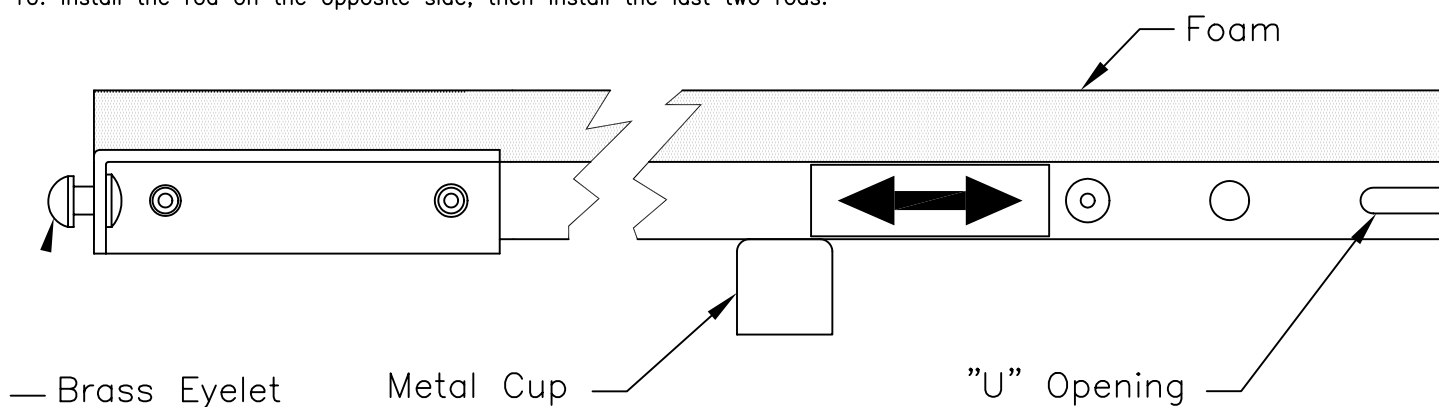

FIGURE 1
1. Locate the four aluminum channels (fig. 1) for the hood and position them into a square with the foam facing up. Slide the "U" opening on the channel end and corner bracket toward the brass eyelets until you feel it latch.